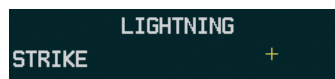

Figure 6-19 Lightning Legend
- 1) Press the **MAP** Softkey (for the PFD Inset Map, press the **INSET** Softkey). This step is not necessary on the Weather Data Link (XM) Page.
- 2) Press the **XM LTNG** Softkey (**LTNG** Softkey on the Weather Data Link (XM) Page).
To display the XM Lightning legend on the Weather Data Link (XM) Page (Figure 6-19), press the **LEGEND** Softkey when XM Lightning is selected for display.